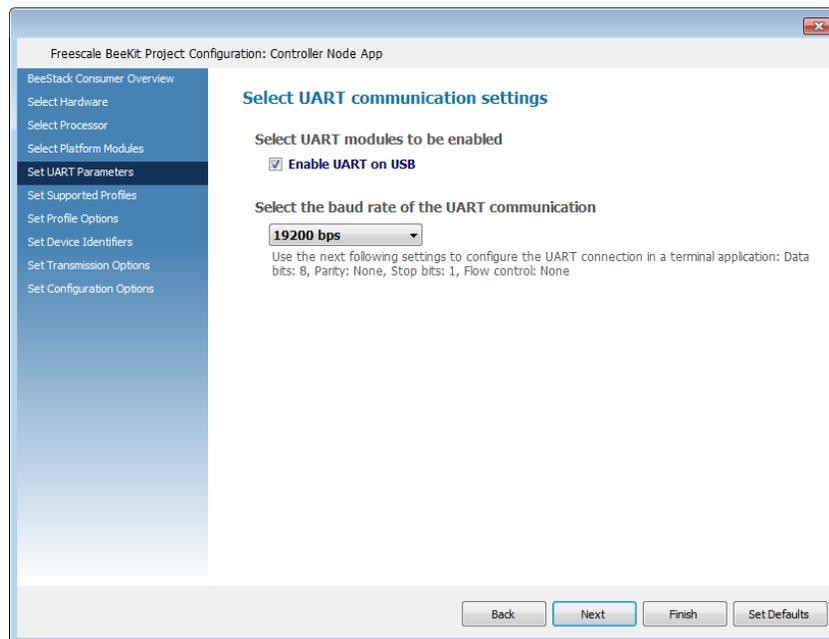

Figure 2-7. UART Parameters Page
3. Leave the default platform modules settings unchanged. LEDs and Keyboard modules on the board are enabled. Click Next to go to the UART Parameters page shown in Figure 2-7.